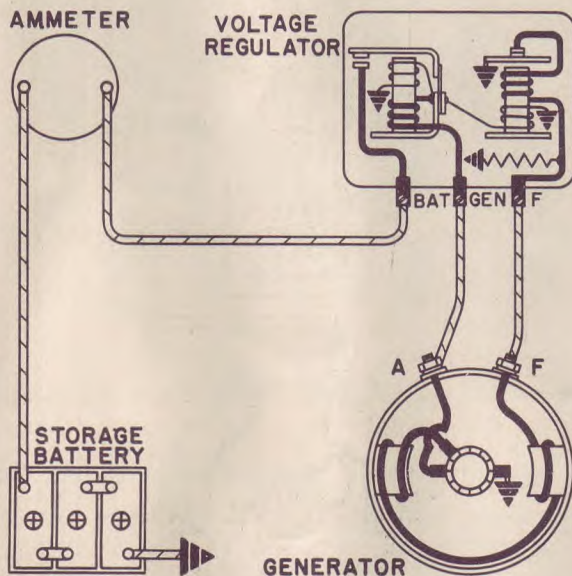

**FIGURE 2-5**
**The Step-Voltage Control** (Figure 2-5) contains a cut-out relay and the step-voltage control unit. The step-voltage control unit is a magnetic switch which operates much like the cut-out relay. It has two windings which are connected across the generator so that generator voltage is impressed on them. Above the windings there is a flat steel armature with a contact point on it. This point is held against a stationary contact point by the tension of a spiral spring hooked to the armature. In this position the generator field circuit is connected directly to ground, so that the generator can produce